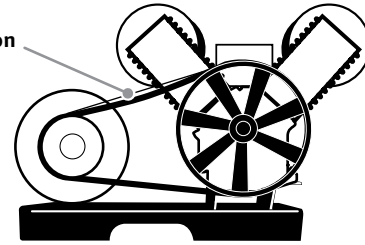

Figure 4: Proper belt tension
2. Check for proper belt tension. There should be 1/2 inch slack. See maintenance section if adjustment is necessary. Refer to figure 4.
1. Proper belt tension is determined by pressing on belt midway between motor pulley and flywheel. There should be approximately 1/2 inch of deflection. See figure 4, pg. 7.